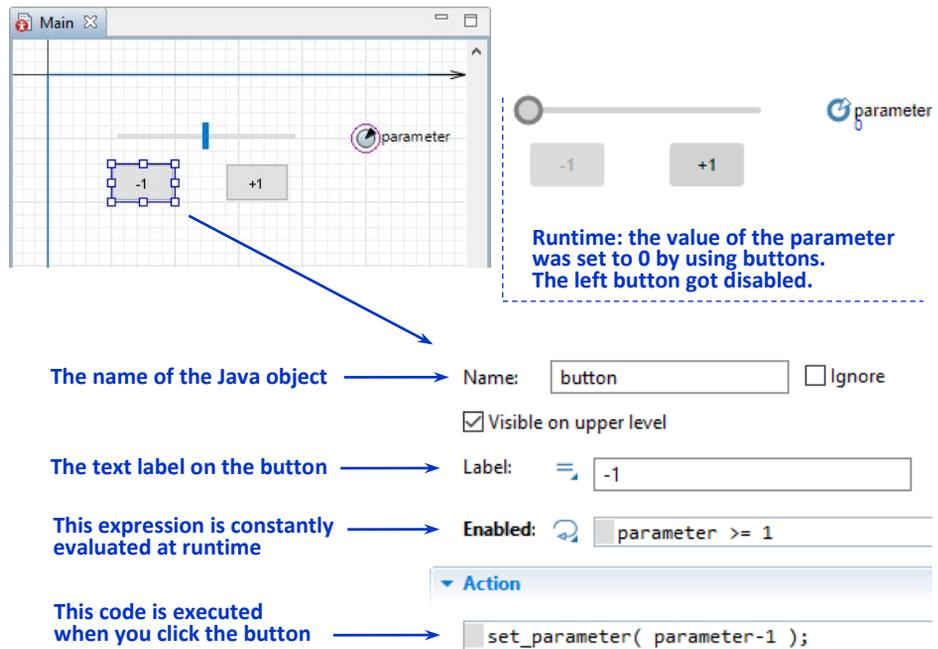

Figure 13.3 Buttons incrementing and decrementing the parameter value
1. Create two buttons (use the **Button** element from the **Controls** palette) and arrange them as shown in Figure 13.3.